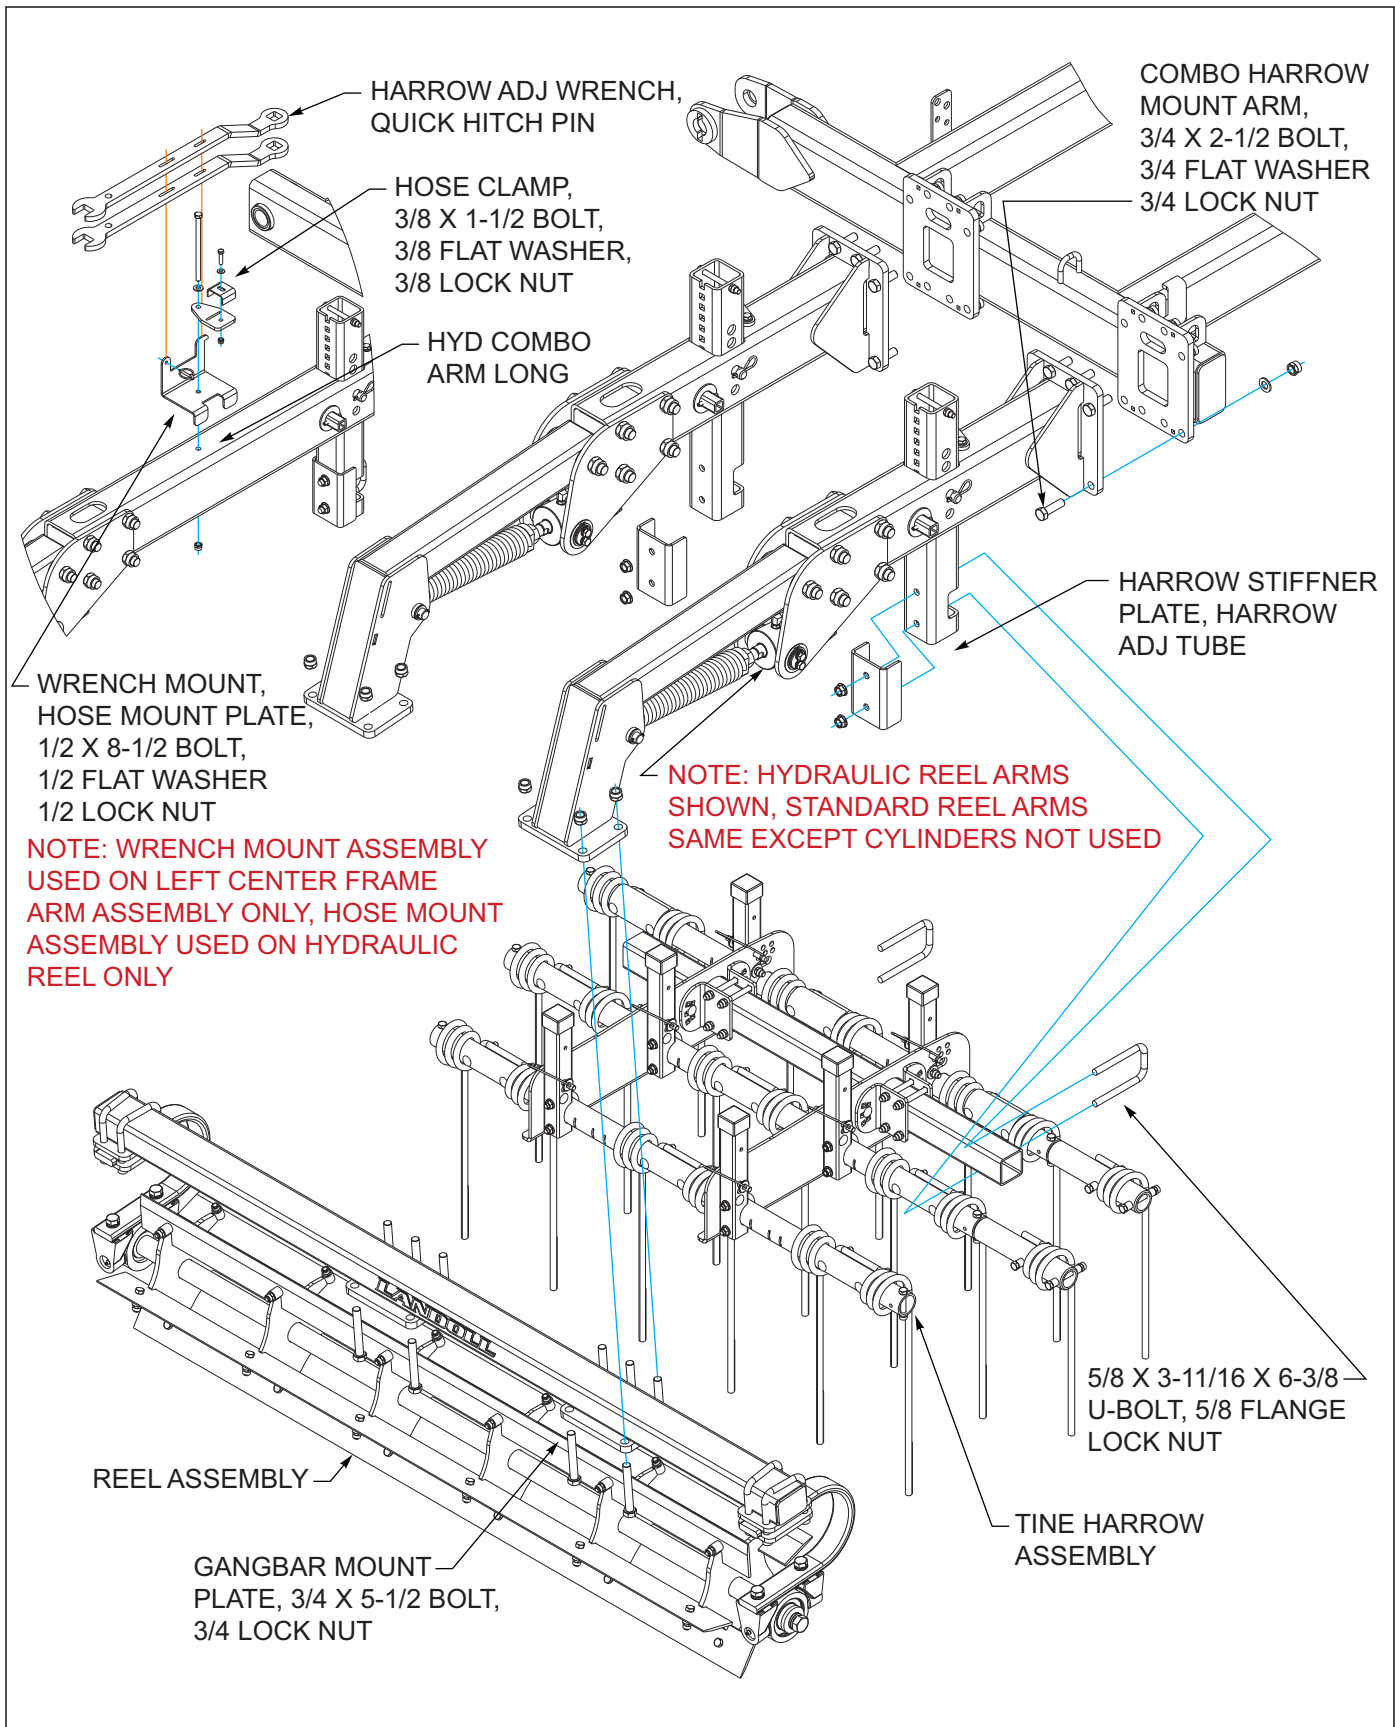

Figure 3-27: Standard or Hydraulic 3BCT/Chopper Installation (Option)
1. Attach the combo harrow mount arm long assemblies on rear of center frame and short arm assemblies to plates on rear of wing frames with 3/4 x 2-1/2 bolts, 3/4 flat washers, 3/4 lock nuts See Figures 3-27.
3. Attach the harrow tine assemblies, secure with the u-bolts, harrow stiffner plates, nuts that were just removed as shown See Figures 3-27
5. Attach the reel assemblies, secure with the gangbar mount plates, 3/4 x 5-1/2 bolts, 3/4 lock nuts, that were just removed as shown See Figures 3-27.